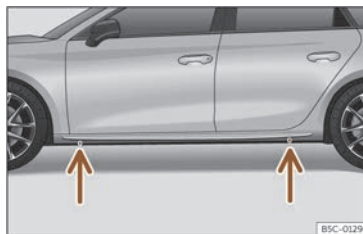

Fig. 235 Jack position points.
- Look on the strut for the mark of the jack support point (sunken area) closest to the wheel to be changed >>> **Fig. 235**.